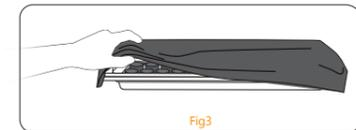

Fig3
- Place the seedling tray with cover in the shade.(Fig3)